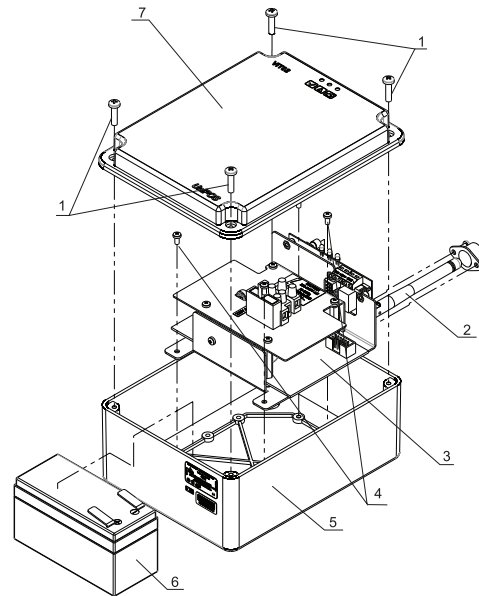
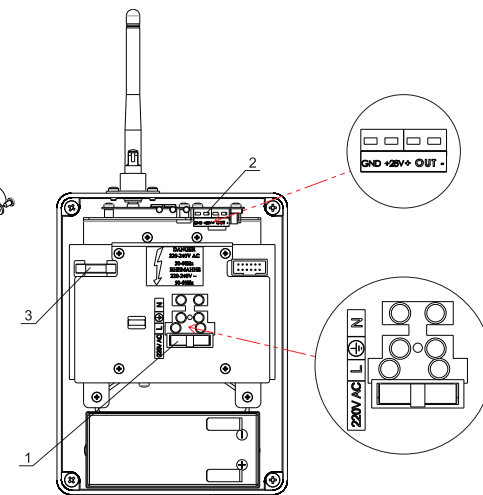

Fig.2
Fig.3
The router consists of power supply unit, attached to a metal frame (pos.3, fig.2), and a radio module with external antenna (pos.2, fig.2), mounted into a plastic box with base (pos.5, fig.2) and cover (pos.7, fig.2). Under the radio module, on the right side, are located the monitored output terminals, for connection with external devices (pos.2, fig.3).
2.4. Dismantle the cover (pos.7, fig.2) from the base (pos.5, fig.2) by developing the four screws (pos.1, fig.2). Fit the battery (pos.6, fig.2) and join the wires to the terminals thereof. Red wire to (+) and to blue (-) battery. Yellow LED lights (mains supply). The router booster scans all channels. Allow registration of the control panel.
3.1. If necessary dismantle the cover (pos.7, fig.2) from the base (pos.5, fig.2) by developing the four screws (pos.1, fig.2).
3.2. Remove the battery (pos.6, fig.2) and remove the antenna (pos.2, fig.2).
3.3. Dismantle the chassis (pos.3, fig.2) from the base (pos.5, fig.2) by developing the four screws (pos.4, fig.2).
3.6. The wires are passed inside the box. Basis (pos.5, fig.2) is attached to the wall using appropriate fixings, keeping the place chosen in accordance with the detailed design and the assessment of patency of the signal.
3.7. The base (pos.5, fig.2) is mounted chassis - kit (pos.3, fig.2) by four screws (pos.4, fig.2)
3.8. Remove the fuse (pos.1, fig.3) and join the wires of the mains power supply and monitored output (pos.2, fig.3) (where the output will be used).
3.9. Mount the antenna (pos.2, fig.2).
3.10. Fit the battery (pos.6, fig.2) and join the wires to the terminals thereof. Red wire to (+) and to blue (-) battery.
3.11. Place the fuse (pos.1, fig.3). The device is powered from power supply.
3.12. Mount the cover (pos.7, fig.2) to the base (pos.5, fig.2) by four screws (pos.1, fig.2).